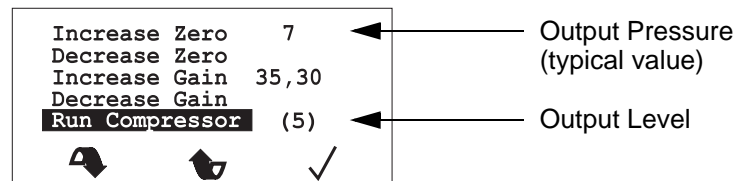

Figure 27 - LCD Display - Output Pressure
- 8.10 To start the test, scroll down the list of options to **Run Compressor**, and select it using the ✓ button. The compressor will start running at output level “5”, indicated by the **(5)** on the LCD display, and the **Output Pressure** shown on the LCD display should rise and then stabilize (Refer to Figure 27).